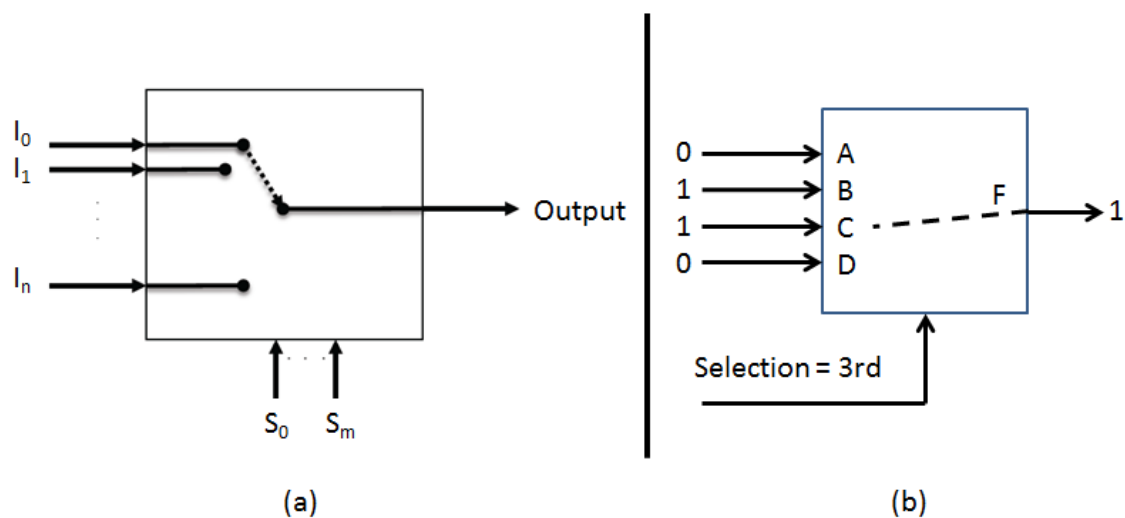

Figure 4.1. Mux component block diagram. (a) $n:1$ mux. (b) 4:1 mux.
A multiplexer (Mux) component has several inputs, a control signal, and one output. The output receives the value present in one of its inputs, according to the control signal. The block diagram of a general mux in Figure 4.1(a) has n input signals (I) and m control signals (S). A 2^n inputs mux, needs n control signals.
The mux component in Figure 4.1(b) has four 1 bit inputs A, B, C and D, set to the values 0, 1, 1, and 0, respectively. The selection is set to allow the third input to be connected to the output and, consequently, the F signal presents the value 1. Every time C has its input value changed, F will also be changed. To connect another input to the F output, it is necessary to change the selection signal.
A mux circuit, also known as “data selector”, only allows one input to be available at its output at a time, according to the control signals (“Selection” in Figure 4.1). As examples of applications, this component can be used for data selection, for data routing, in parallel to serial conversions, and also to implement truth tables.